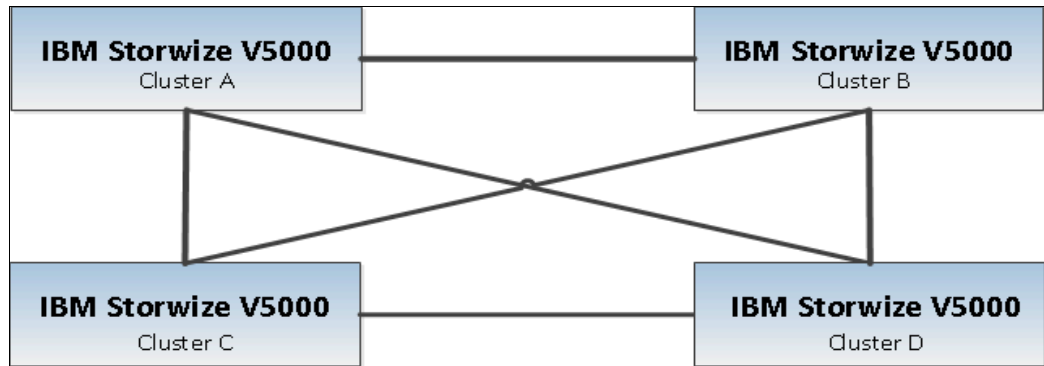

Figure 10-77 Full meshed IBM Storwize V5000
- ▶ Full-meshed topology, as shown in Figure 10-77.